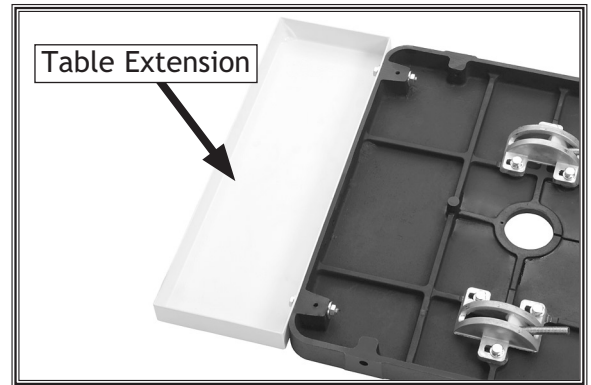

Figure 10. Table extension attached to table on flat surface.
2. Attach the table extension to the table with the two $\frac{5}{16}$ -18 x 2" hex bolts, two $\frac{5}{16}$ -18 hex nuts, and four $\frac{5}{16}$ " flat washers, as shown in Figure 10. Make sure that the table and table extension are firmly pressed against the flat surface and tighten the bolts/nuts.